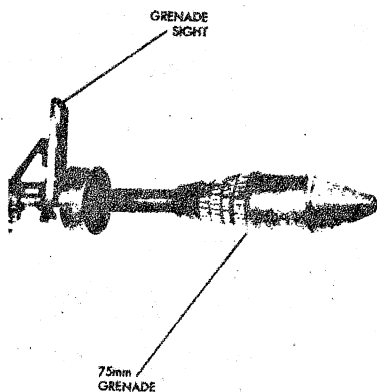

Figure 1-4
- The flash suppressor also serves as a grenade launcher, as shown in figure 1-4. This permits instant conversion from rifle to grenade launcher without the use of tools or special adapters.